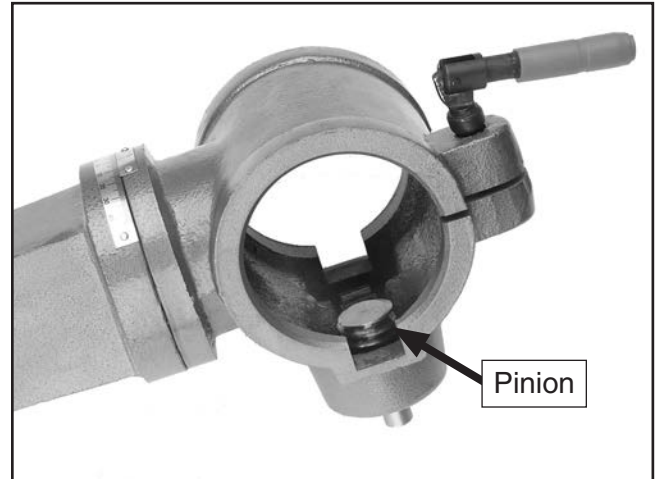

Figure 15. Pinion correctly installed in table support.
3. Place pinion in table support, as shown in **Figure 15**, so pinion and gear teeth mesh together.